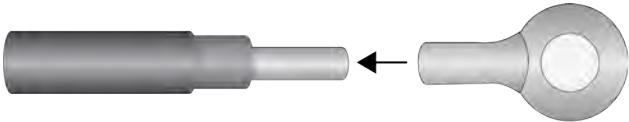

Figure 45. Sliding the Ring Terminal Lug on the Grounding Wire
- 3. Slide the ring terminal lug over the stripped wire on the grounding wire. Refer to Figure 45.